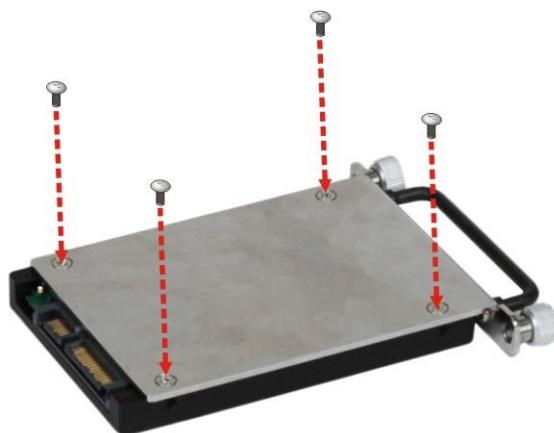

Figure 3-8: SSD Retention Screws
Step 3: Place an SSD onto the bracket and secure the SSD with the bracket by inserting four retention screws (M3*4) into the bottom of the SSD (**Figure 3-8**).